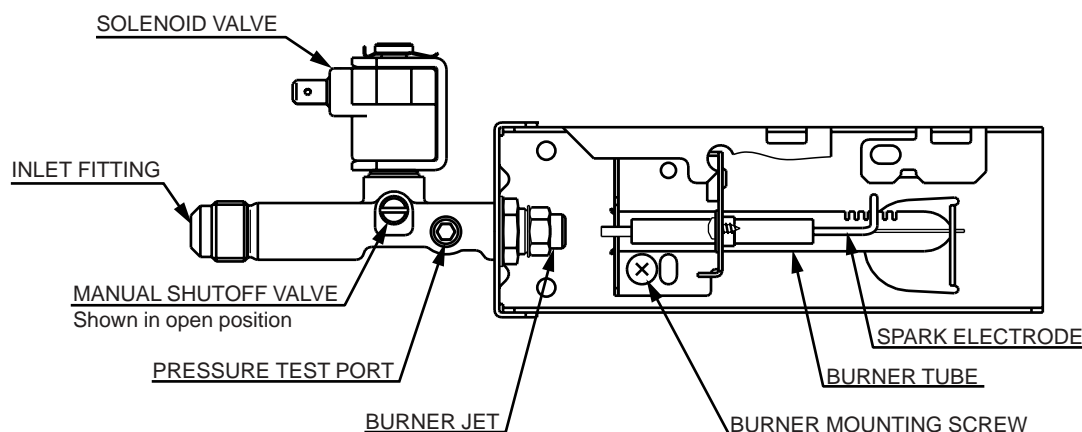

FIG. 12
- D. The LP gas pressure should be checked and readjusted if necessary. The correct operating pressure is 11 inches of water column. The correct place to take the LP gas pressure is at the test port just ahead of the burner jet. (See FIG. 12).
5. Remove the burner mounting screw and remove the burner assembly. (See FIG. 12).
Set main regulator so pressure does not drop below 11 inches of water column at pressure test port. (See FIG. 12).